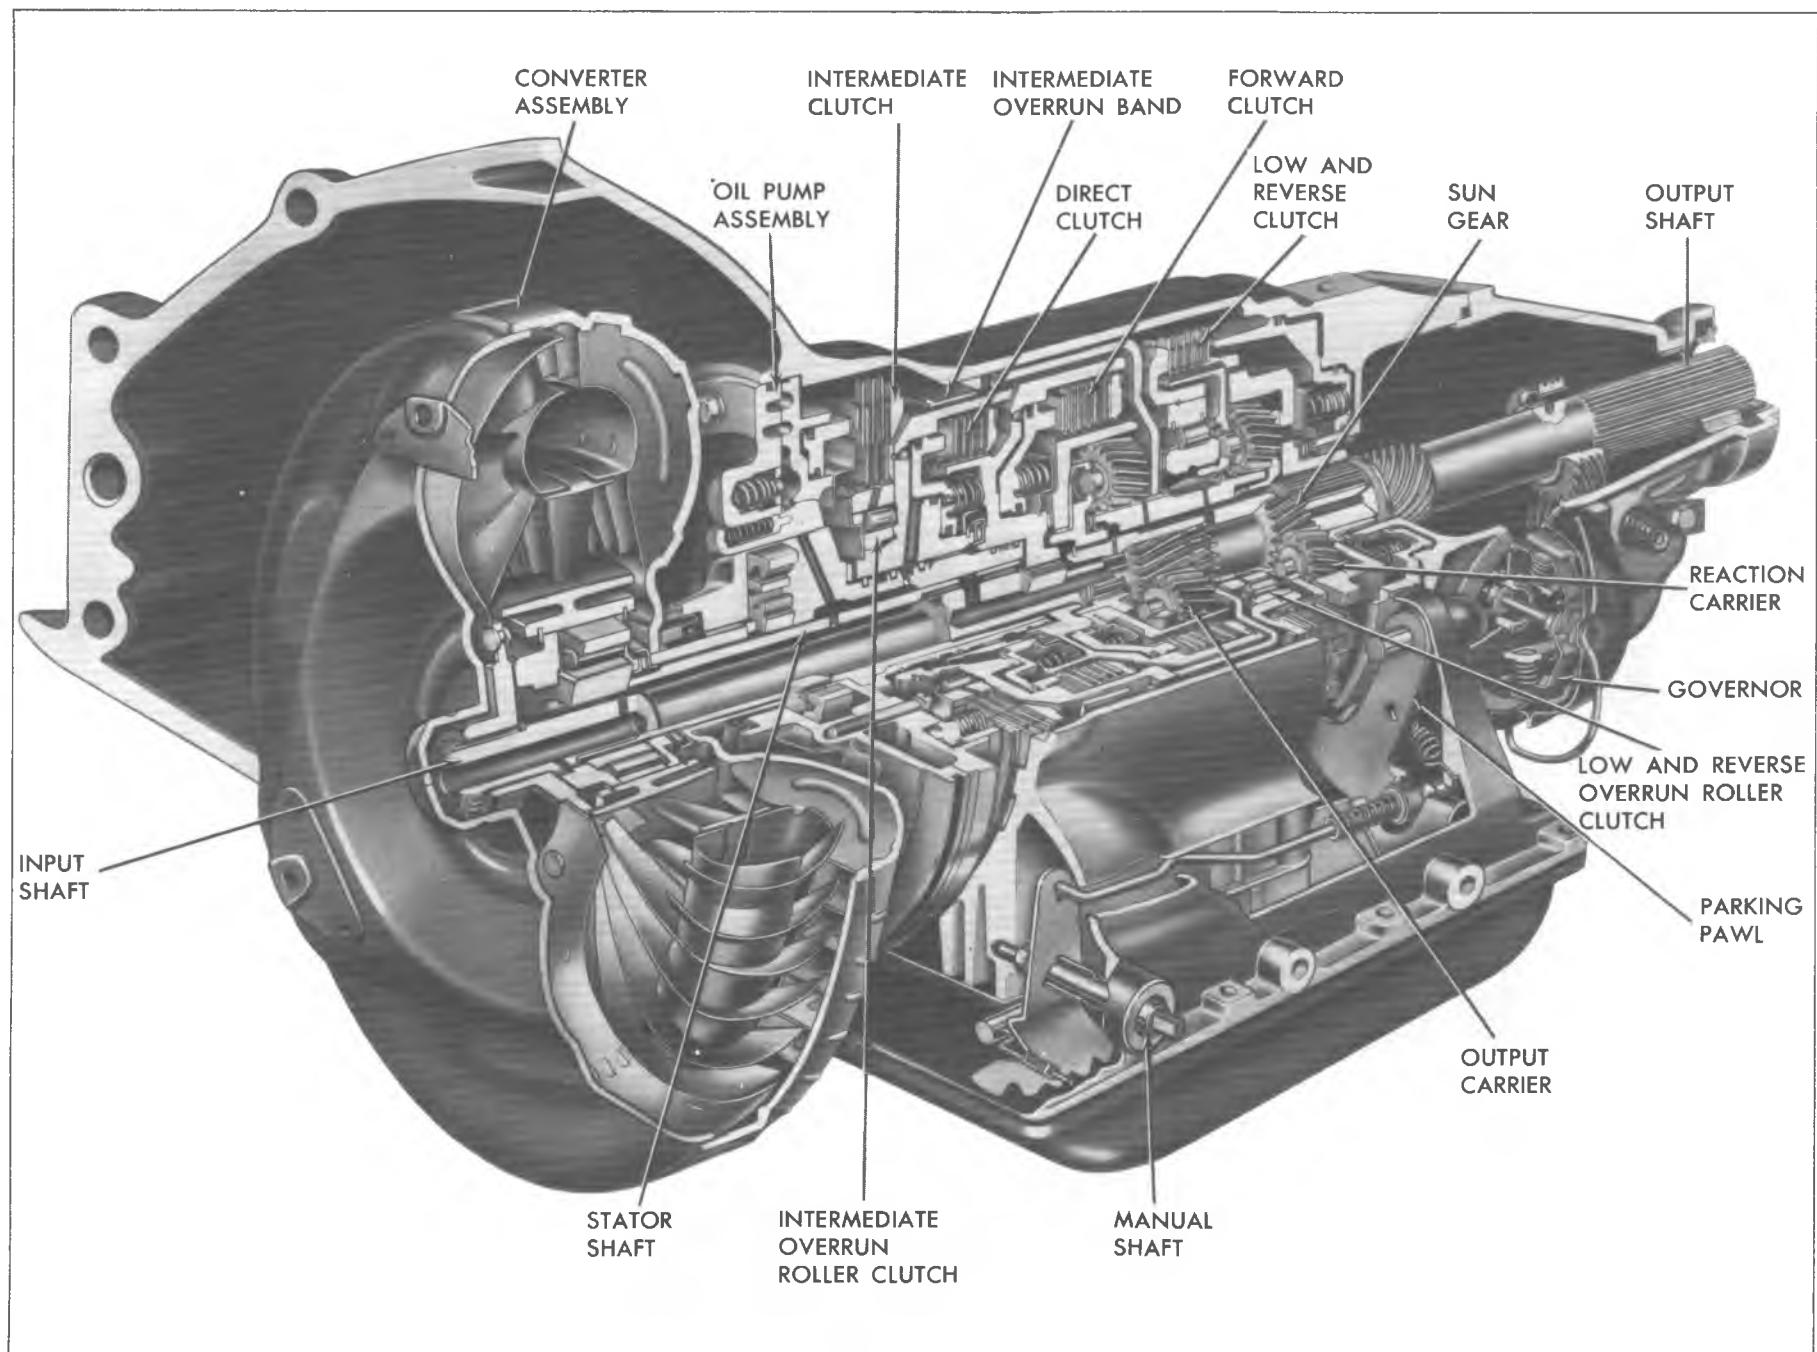

Fig. 7A-1B--CBC 350 Sectioned View
1. Install Holding Fixture J-8763-02 on transmission and place into Holding Tool base J-3289-20 with converter facing up (fig. 7A-2B).